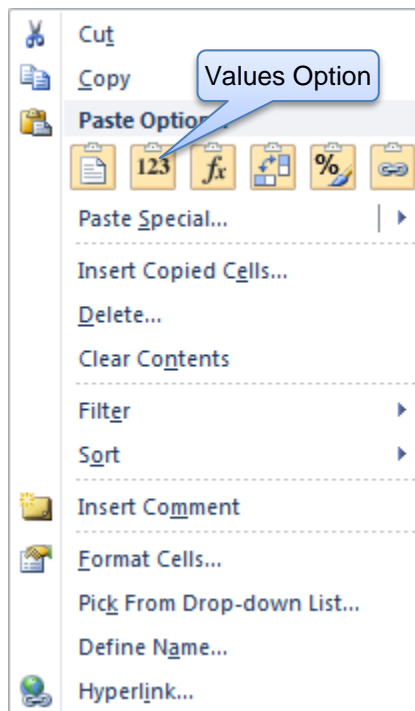

Figure 6-8 Paste Context Menu
- Right click on the mouse. The context menu seen in Figure 6-8 should appear.